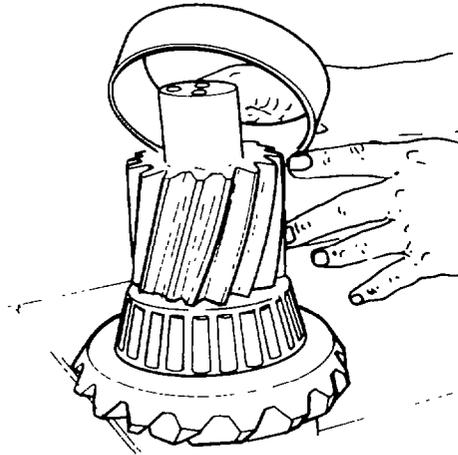

Fig. 318 — Fitting Left-hand Bearing Cup
- g. To determine the bearing preload, temporarily align and position the left-hand bearing cup onto the shaft assembly as shown in fig. 318.